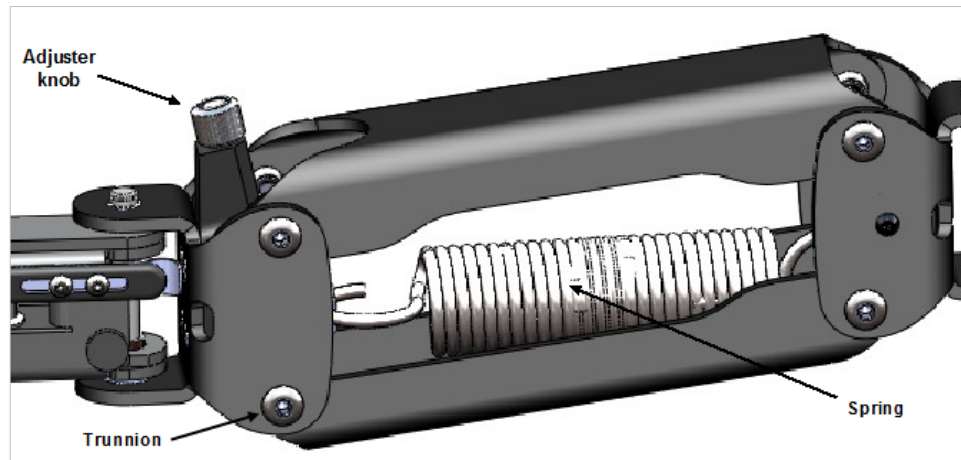

Figure 8 Lift-adjusting knob and the distal link in position for adjusting lift
2. Move the payload so that the spring of the distal link is perpendicular to the adjusting mechanism. The link should be slanting at about 10° above level and the Lift knob should turn easily. See Figure 8.